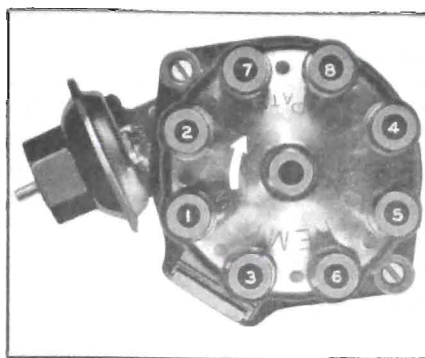

Figure 10-48—Installing Spark Plug Wires in Cap
5. Install distributor cap. Make sure that spark plug wires are correctly installed in distributor cap, through clips on rocker arm covers, and on spark plugs. See Figure 10-48.
No. 1 spark plug wire is installed in the distributor cap terminal just forward of the vacuum advance unit. The other wires are then installed in a clockwise direction according to the firing order, 1-2-7-8-4-5-6-3. See Figure 10-48.